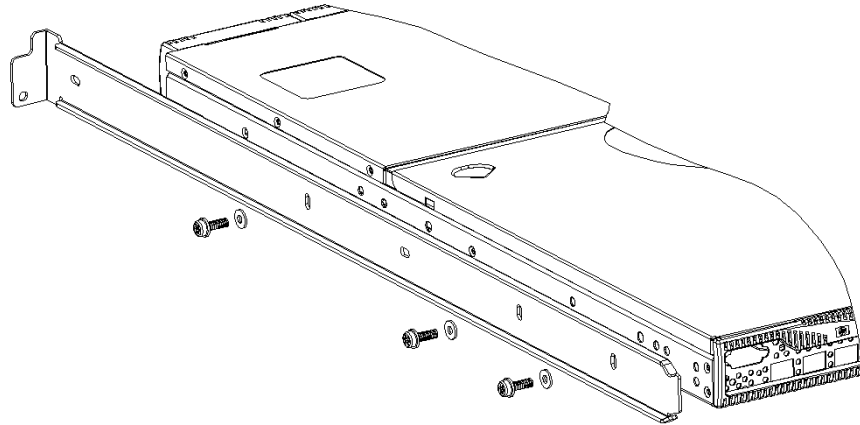

Figure 2-8. Assembling the Inner Rails
6. Assemble the two inner rails (one on each side) to the switch using (6) #8-32 x 5/16 Phillips pan-head screws, and #8 flat washer as shown in Figure 2-8.